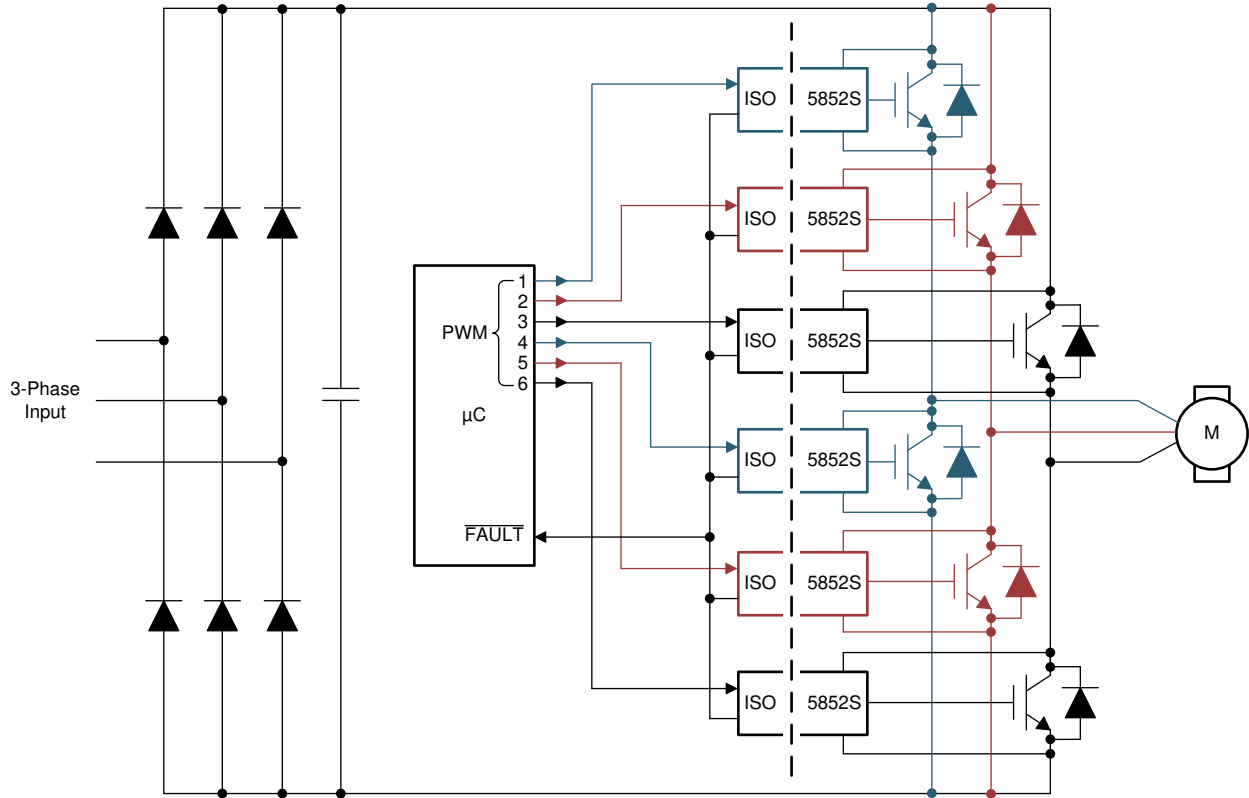

Figure 10-1. Typical Motor-Drive Application
**Figure 10-1** shows the typical application of a three-phase inverter using six ISO5852S isolated gate drivers. Three-phase inverters are used for variable-frequency drives to control the operating speed and torque of AC motors and for high-power applications such as high-voltage DC (HVDC) power transmission.